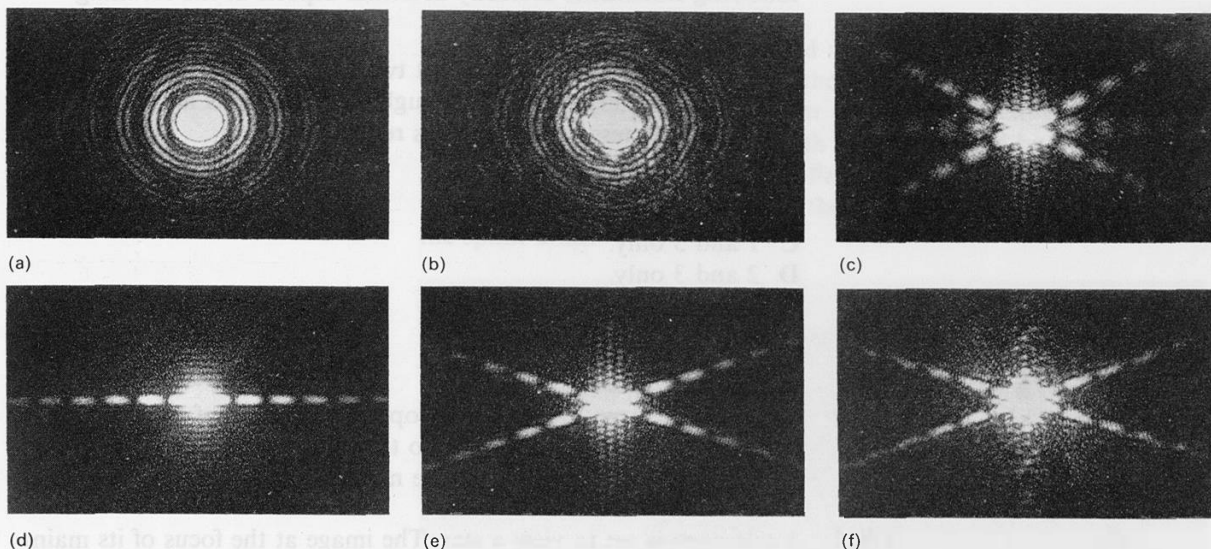

Figure J104
9(P) Diffraction patterns of six letters of the alphabet are shown in figure J104.